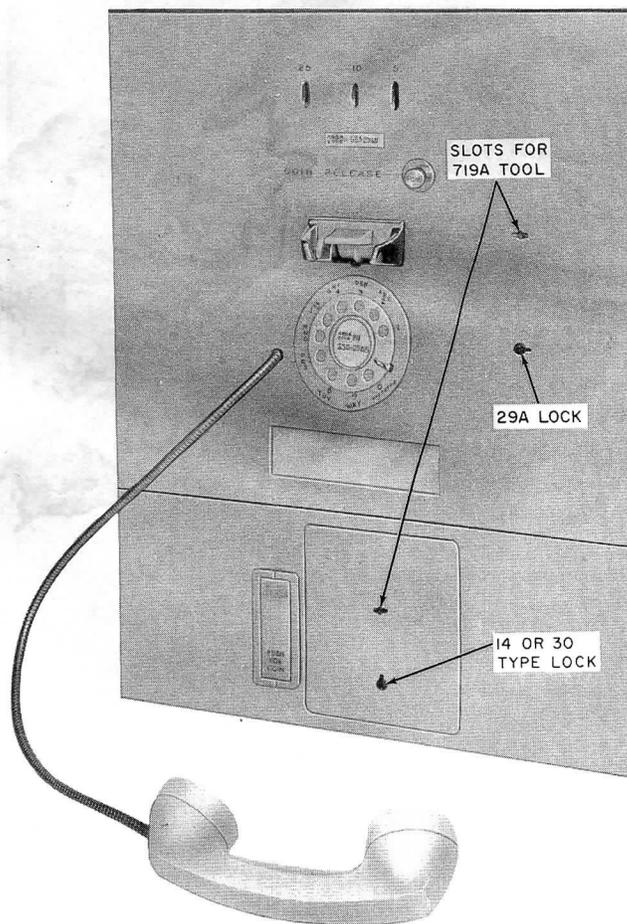

Fig. 1 — 235-Type Coin Telephone
2.01 The 235- and 1235-type coin telephones are the same except that the 235 has a rotary dial and the 1235 has a TOUCH-TONE dial (Fig. 1 and 2).
- (1) Unlock 29A lock (Fig. 1 or 2).
- (2) Insert 719A tool into slot (Fig. 1 or 2). Turn tool 1/4-turn clockwise and release locking mechanism.
- (1) Close door far enough so plug from door reaches jack on TB1.
- (2) Insert plug into jack.
- (3) Close door.
- (4) Turn locking mechanism 1/4-turn using a 719A tool (Fig. 1).
- (5) Lock 29A lock.